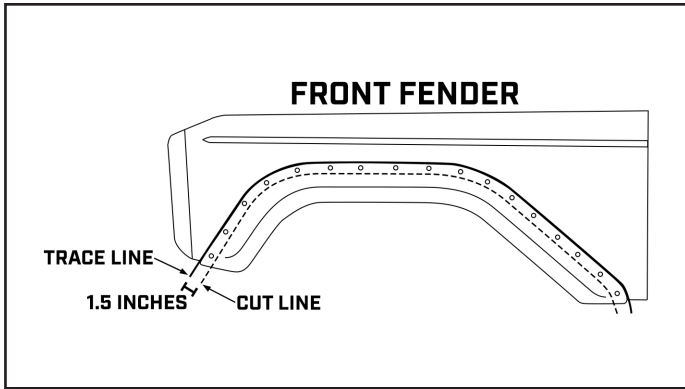
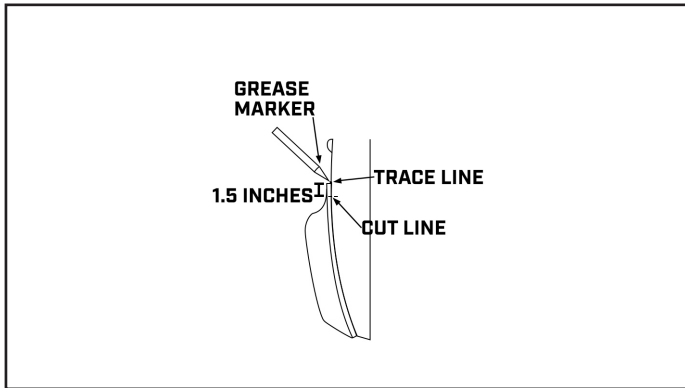

Figure 1
Figure 3
3. With the flare clamped in place, use a grease marker to outline the shape of the fender flare on the body. (Figure 3) Remove the flare and mark a line 1.5" inward of this line. (Figure 1 & 2) This inward line will be used for the cutting line.